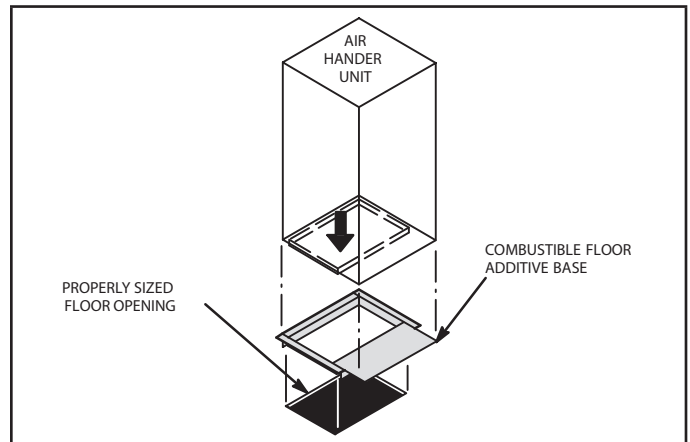

FIGURE 18. Downflow Combustible Flooring Base
- 1 - For downflow installation on combustible flooring, an additive base must be used as illustrated in figure 18. See CBK45UHVT Engineering Handbook for downflow combustible flooring base kits available for this air handler.